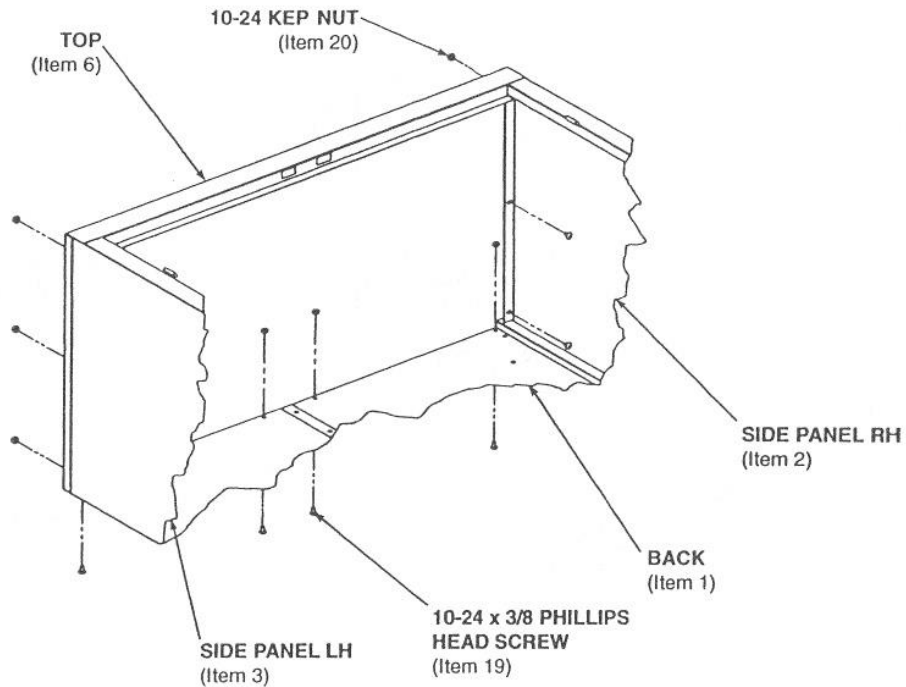

FIGURE 5
Slide the top (Item 6) over the back and onto the side panels. Secure together with ten (10) 10-24 x 3/8 Phillips head screws (Item 19) and ten (10) 10-24 Kep nuts (Item 20) – three (3) on each side panel and four (4) along the back. See Figure 5.